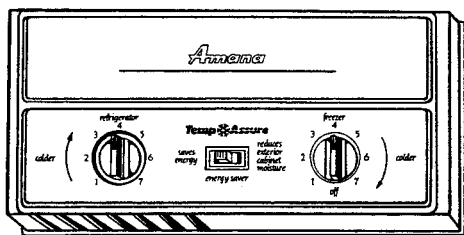

Figure 1.
- a. Locate refrigerator and freezer controls at inside back top of refrigerator section. See Figure 1.